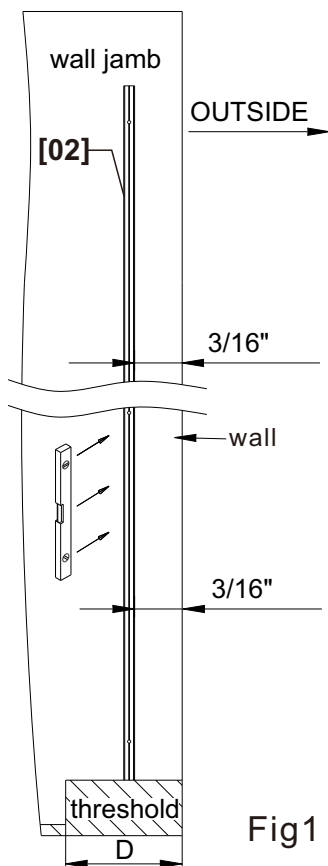
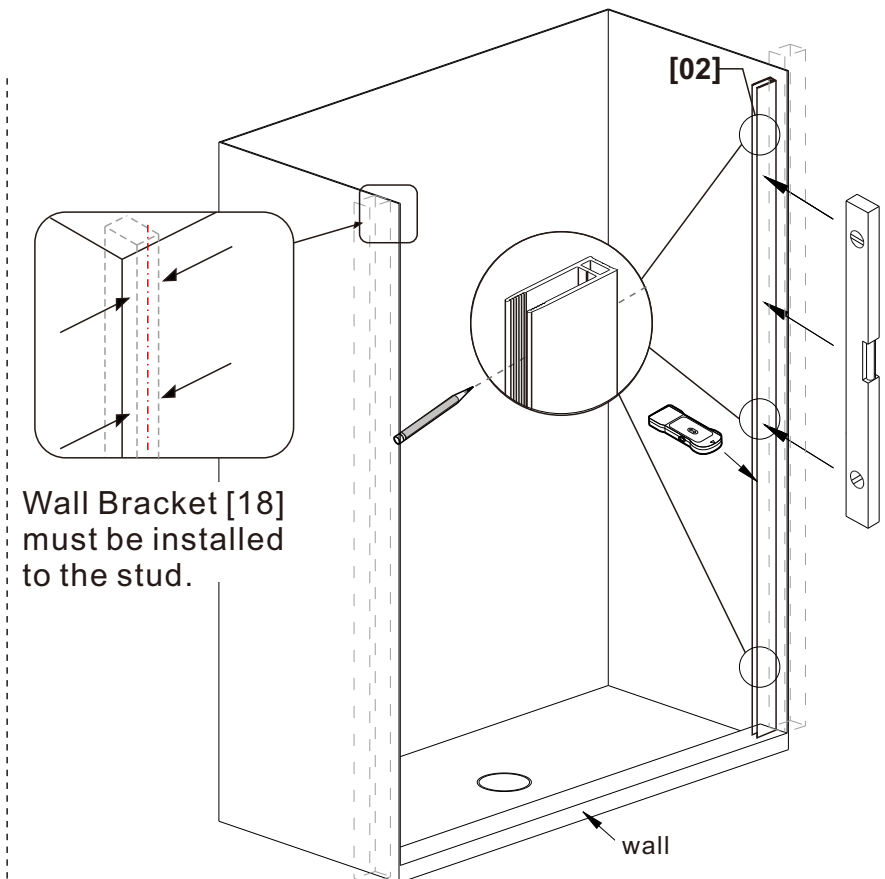

Fig1
Fig2
- This model requires a minimum 2-3/16" (55mm) of flat level threshold space for installation. (Dimension "D" of Fig 2.)
- This shower door must be installed into a stud. Minimum threshold space is required. **IMPORTANT:** Using a stud finder, ensure that the wall on both side of the enclosure has a stud in the location shown. A stud in this location must be identified to support the support bar and the wall jamb in order to proceed with the installation. If you do not have a stud in this area shown, find a qualified person for advise. (Fig 2)
1. Measure in 3/16" (5mm) min from the outside of the Wall to the profile of the **Wall Jamb [02]** or measure in 3/16" + (A") if you want to install the shower door behind the outside of the wall (Fig 1, Fig 2).